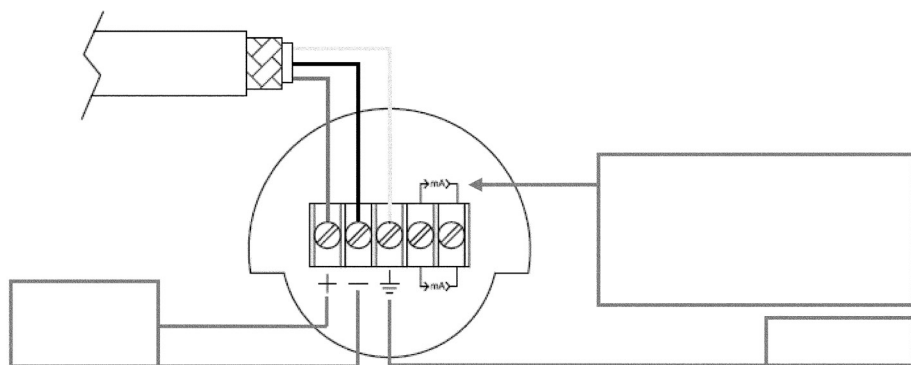

Fig. 3 - Electrical connection of the power cable to the terminal block
Under the rear cap is placed the terminal block reporting the electric polarity (**Fig. 3**). Insert the power supply cable into the enclosure through one of the two threaded openings. Transmitter is protected from accidental inversion of polarity. For a better use is recommended a twisted pair cable (22 AWG min). Avoid placing Transmitter near devices powered in AC or Switching. Connect ground-tap of the Transmitter to the local common earth (PE) as indicated in paragraph Earthing.
In the case where the plant devoid of earthing, it is necessary to connect the earth wire to the terminal block through the cable that carries the signal and the power supply (**Fig. 3**).